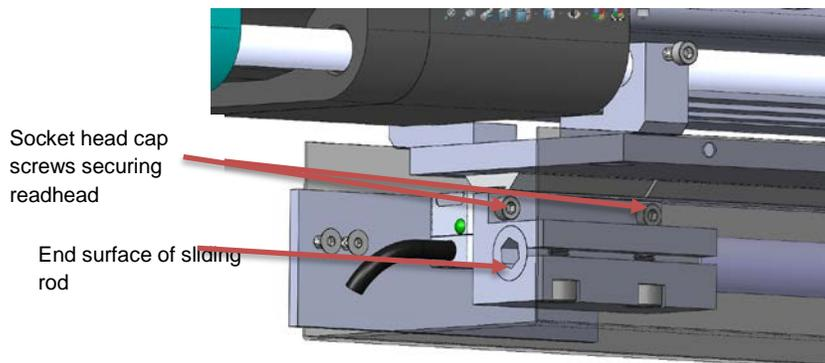

Figure 4 – Screws securing readhead
- 4.7. Unscrew the two socket head cap screws shown in Figure 4.